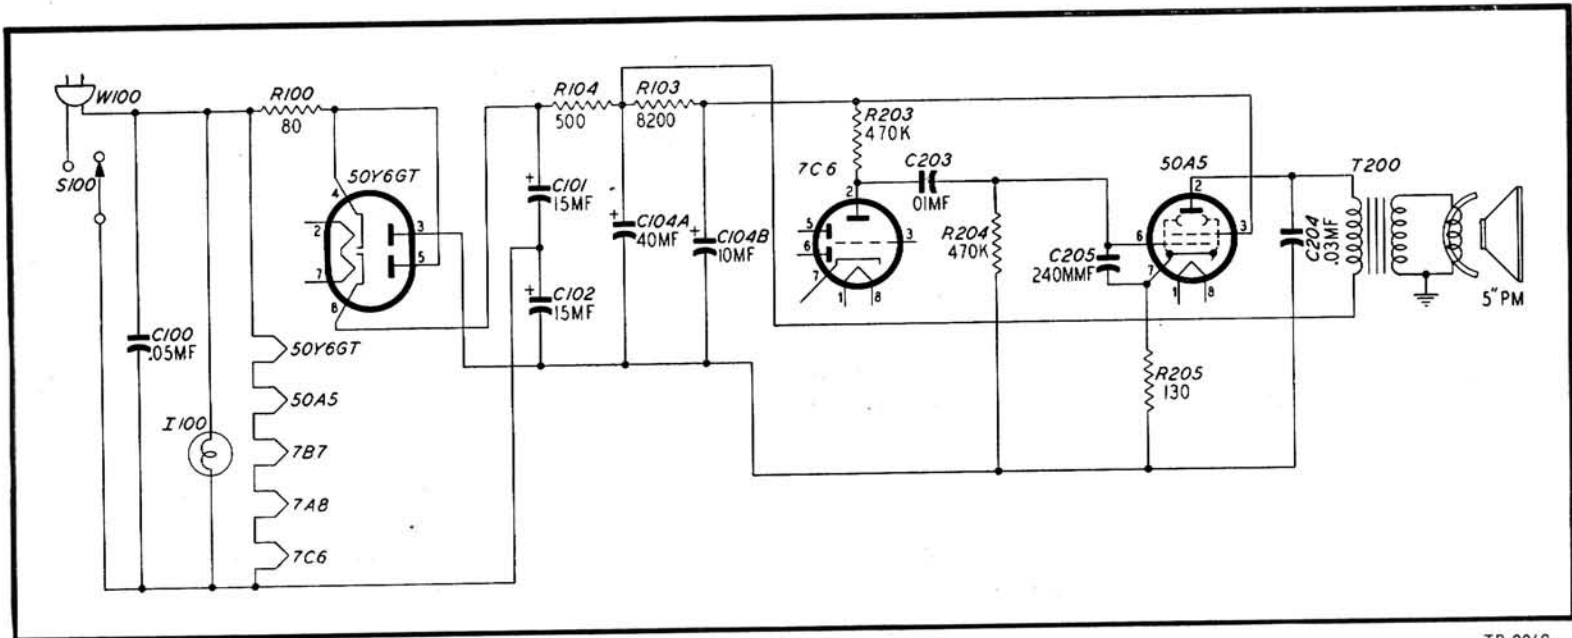

FIGURE 2. POWER SUPPLY AND AUDIO SECTION USED IN CODE 127.
18. Code 127 is similar to Code 121 (as shown in manual) except that it uses a permanent-magnet dynamic speaker and a Loktal type 50A5 output tube in place of a 35L6GT/G. The rectifier filter circuit was changed to use a resistor in place of a filter choke. Parts changes and schematic (figure 2) applicable to Code 127 are as follows: